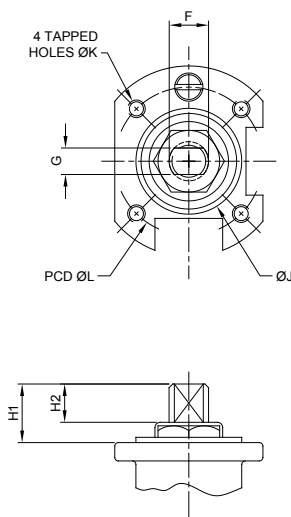

Fig. 5
- 6.5 The mount pad for each valve conforms to ISO 5211 and the stem dimensions are as shown in fig. 5 and table 1 below.